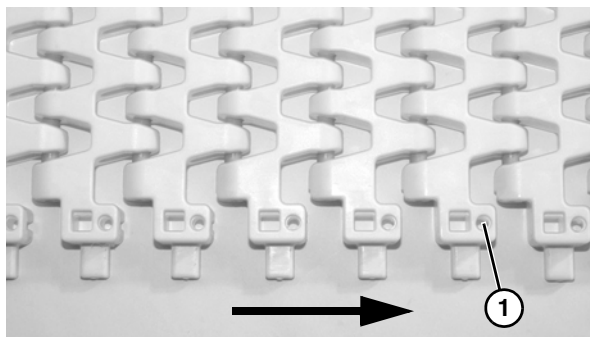

Figure 10
*Ensure the belt is running in the correct direction, with hole (**Figure 10, item 1**) towards conveyor motor.*